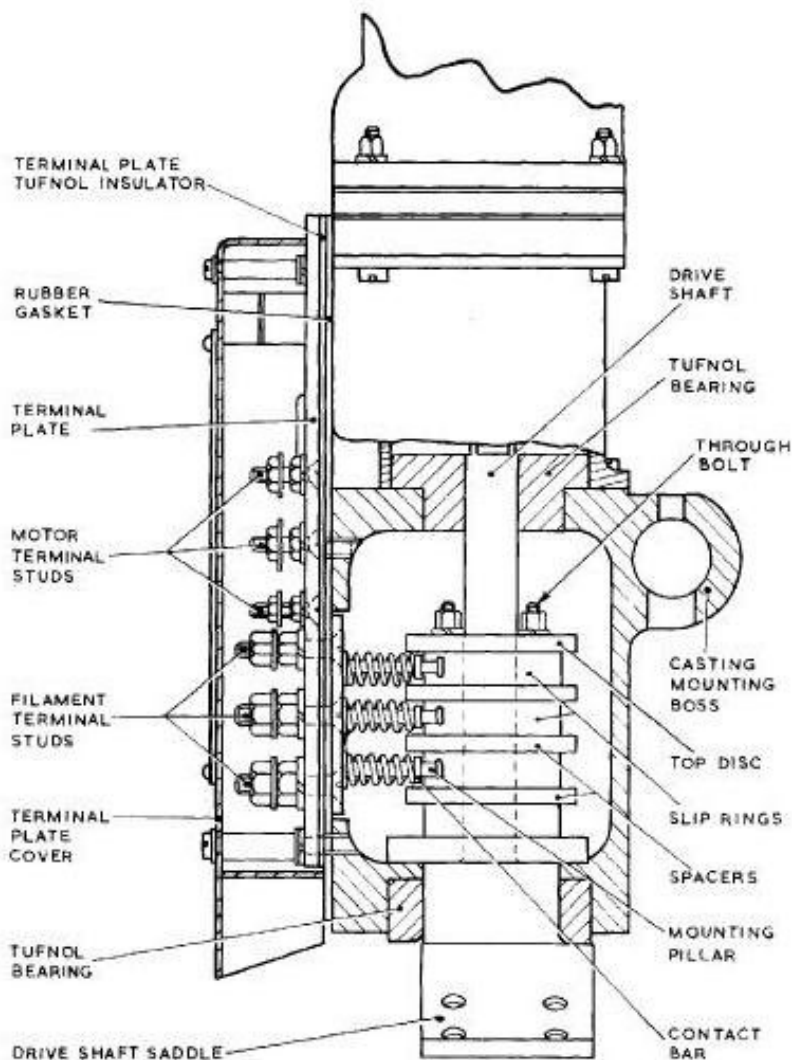

Fig. 5. Part sectional view of column casting showing slip rings and contact bars
7. The column casting is the portion of the lamp which accommodates the rotation mechanism and to which is fitted the filament housing, the whole assembly moves in the vertical plane to extend or retract the lamp. The casting, which is shown sectioned in fig. 5, is secured to the elevation spindle by two 10-32 UNF socket-headed screws. Two operating levers are clamped to the spindle and have fork-ends into which the connecting links are secured by clevis pins.